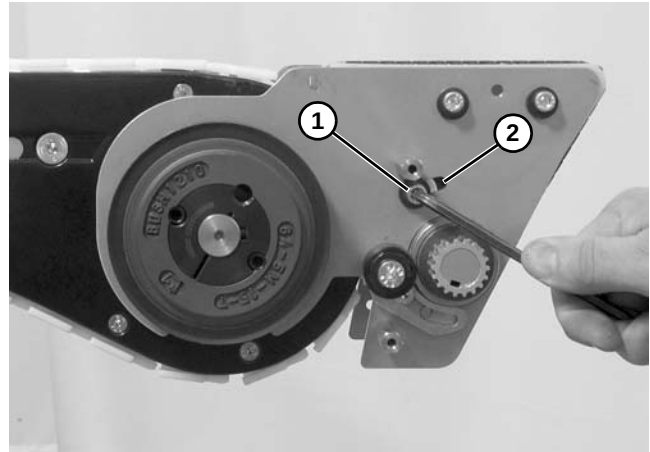

Figure 104
4. Loosen socket head screw (**Figure 104, item 1**) on both sides of the conveyor.
5. Slide idler assembly within slot (**Figure 104, item 2**) to remove tension on belt.